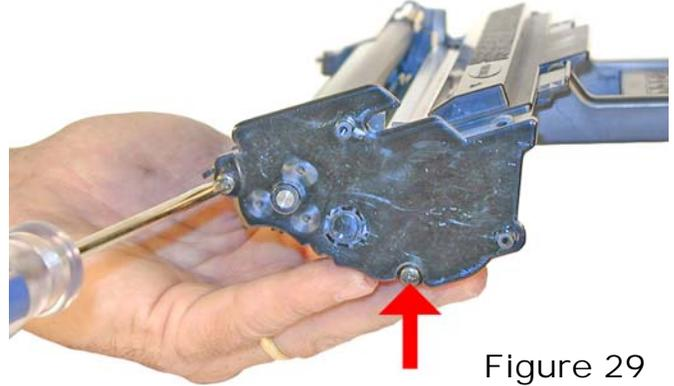

Figure 29
28) Install the gear side end cap, and 2 screws. Make sure the PCR fits correctly in its holder, and all the gears are aligned. See **Figure 29**